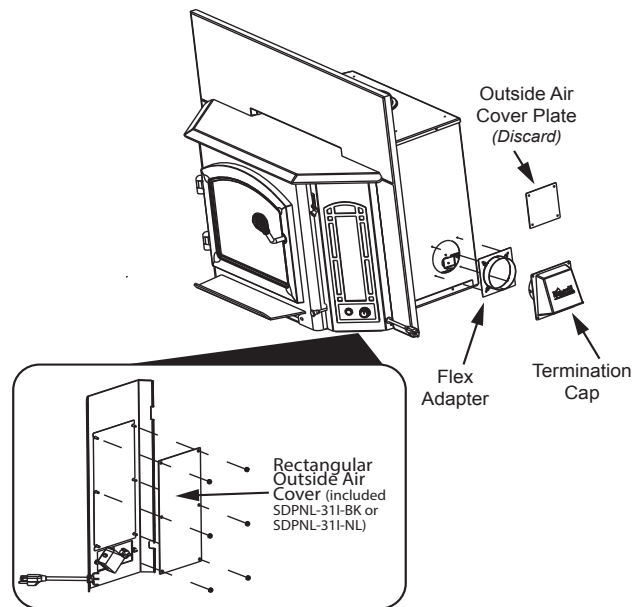

Figure 17.1
1. Remove the **outside air cover plate** from the outer can of the appliance and discard (**Figures 17.1**).
8. See instructions that come with your blower kit to attach rectangular outside air cover (**Figure 17.1**).